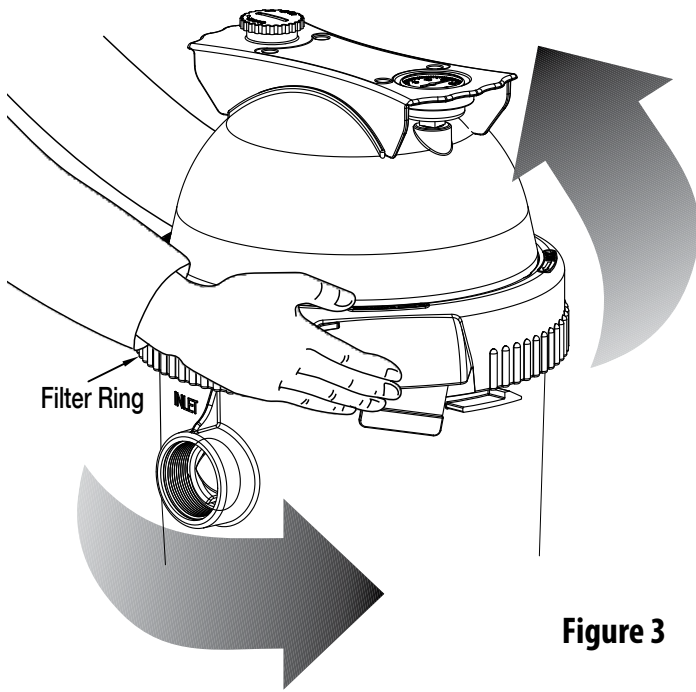

Figure 3
1. Securely lock the Pro-Clean Ring in place by rotating it **CLOCKWISE** until it "clicks" past the safety latch (see Figure 3). Stop turning as soon as the ring clicks past the latch. The ring may feel slightly loose, but it will tighten up when the pump is on and the filter is under pressure.
- C. Rotate the filter ring clockwise until it locks behind the safety latch (see Figure 3).
- A. Press the safety latch (below the ring) toward the tank to release it (see Figure 3).